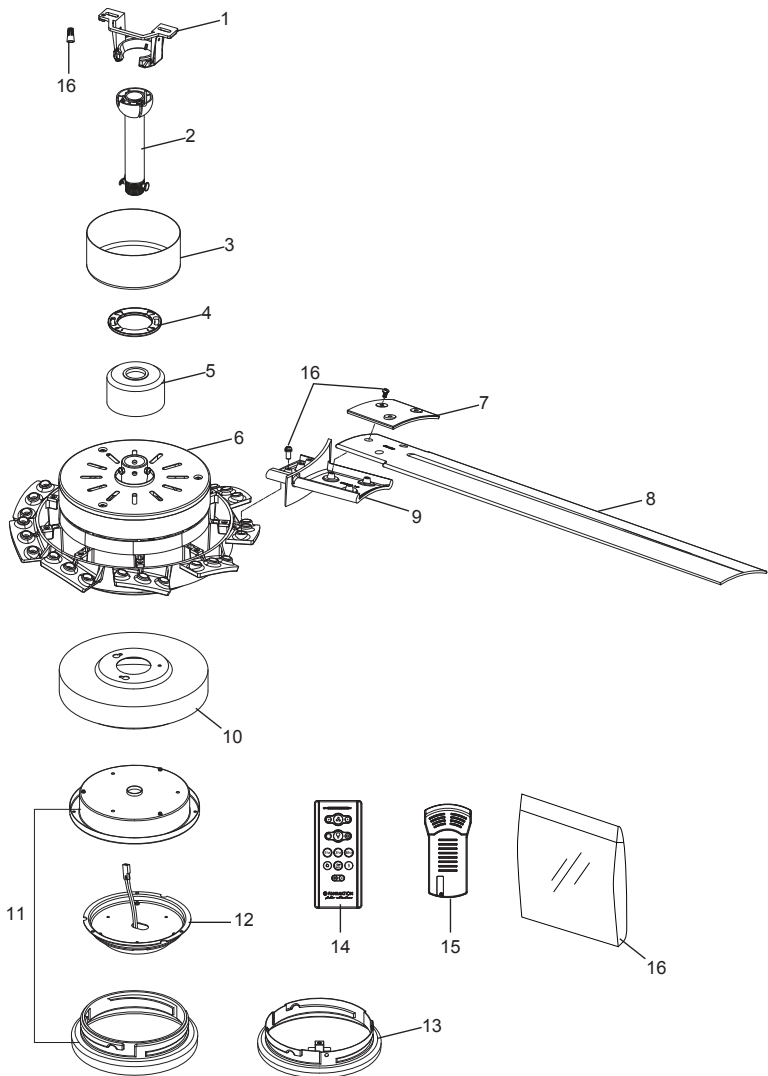

Figure 1
- ☐ 1. **IMPORTANT:** Using a full range dimmer switch (not included) to control fan speed will damage the fan. To reduce the risk of fire or electrical shock, do not use a full range dimmer switch to control the fan speed. (Figure 1)
- ☐ 1. **Installing Wall Holder:** (Figure 1)